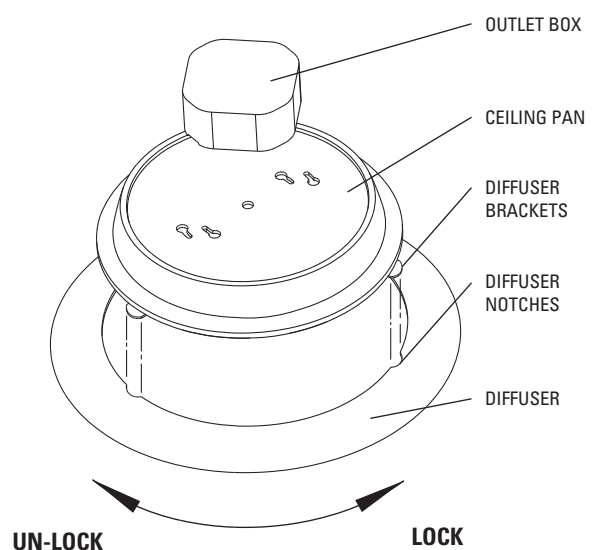

FIG. 2
6. Align DIFFUSER NOTCHES with DIFFUSER BRACKETS on CEILING PAN. Gently push DIFFUSER upward against CEILING PAN and rotate clockwise until DIFFUSER is locked in position. (FIG. 2):